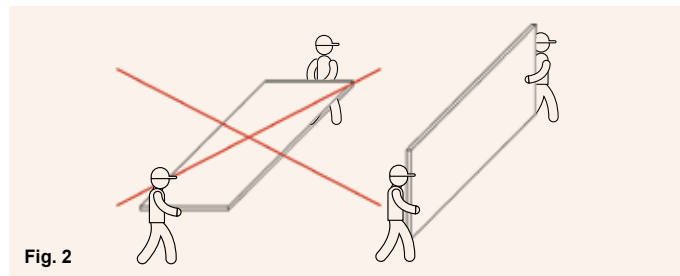

Fig. 2
**VMG Lignum Board | Floor Regular** should be carried by hand in a vertical position, not horizontal, in order to avoid breaking (Fig. 2).